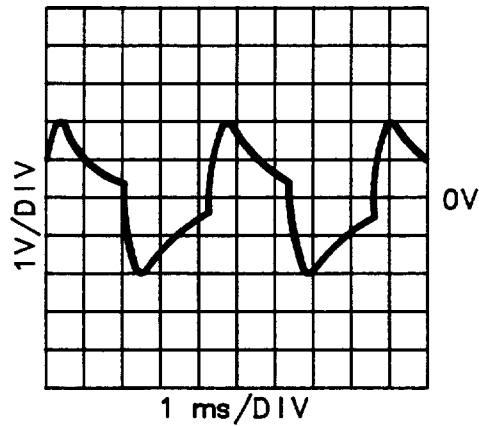

Figure 8-6. A4TP17 Variable Gain Amplifier Waveform
10. Connect the oscilloscope to A4TP17. Verify the signal shown in Figure 8-6. The signal level should be between 2.00 and 11.00 V_{p-p}.